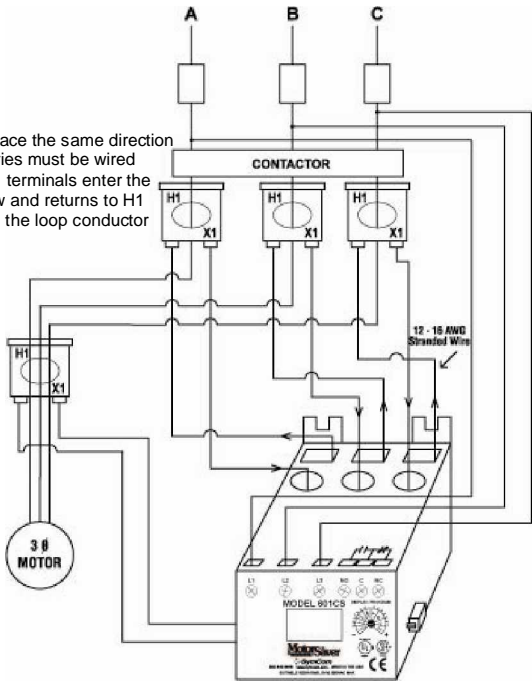

Figure 2: Typical Wiring Diagram Using External CTs.
C) For amperages greater than 175 amps, external CTs (current transformers) are required. SymCom recommends using CTs with terminals for ease of installation. See Figure 2 for a typical wiring diagram using external CTs.